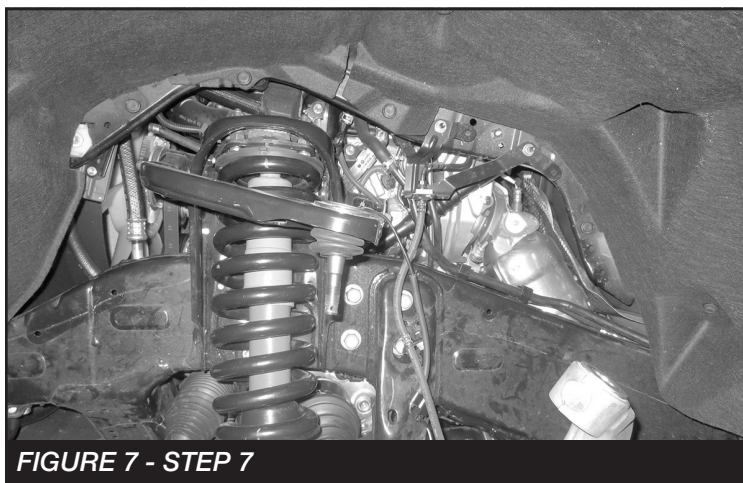

FIGURE 7 - STEP 7
7. Disconnect the upper control arm from the knuckle. Save hardware. **SEE FIGURE 7**